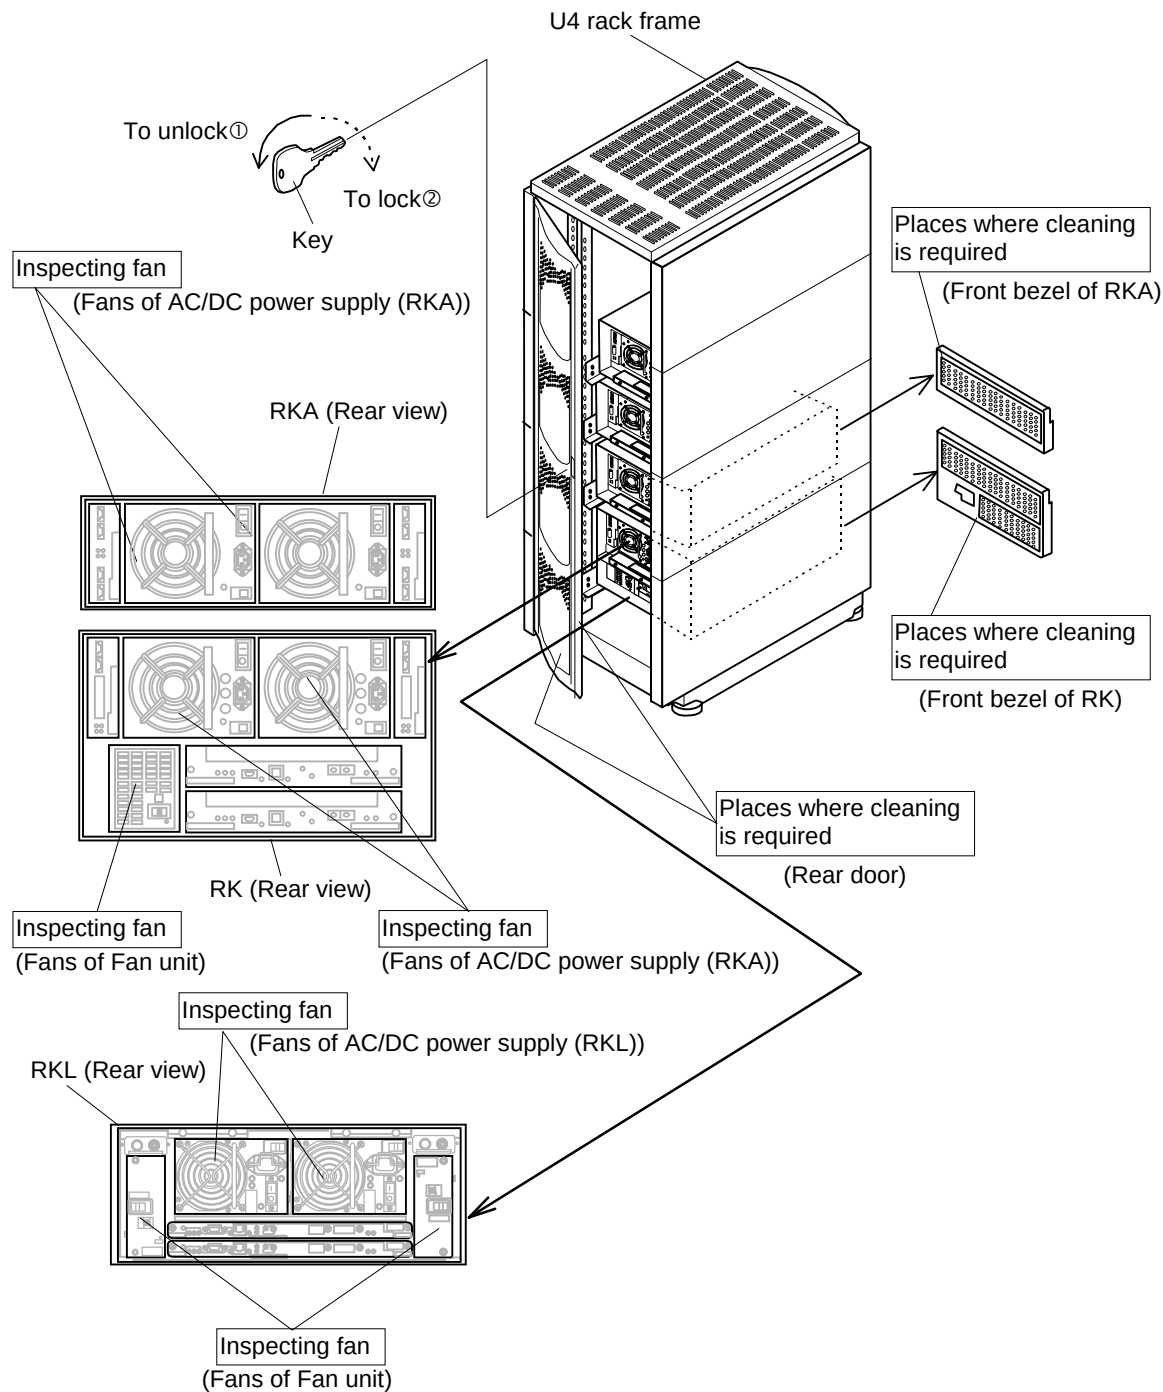

Figure 6.4.1 Inspecting and Cleaning Rackmount Mode with U4 Rack Frame
Perform inspection and cleaning periodically. Parts to be inspected and cleaned are shown in Figure 6.4.1.
- (1) Open the rear door. To open it, insert an Allen wrench into the keyhole on the door, turn it in the direction shown by the arrow ① (→), and open the door leaving the wrench as it is. (See Figure 6.4.1.)
- (2) Make sure that the fan of the AC/DC power supply in the rear of the mounted unit are rotating.
- (3) Make sure that the fans of the Fan unit in the rear of the mounted unit are rotating.
- (4) Fit the Allen wrench in the key socket on the door turn it in the direction shown by the arrow ① (→), and close the door leaving the wrench as it is.